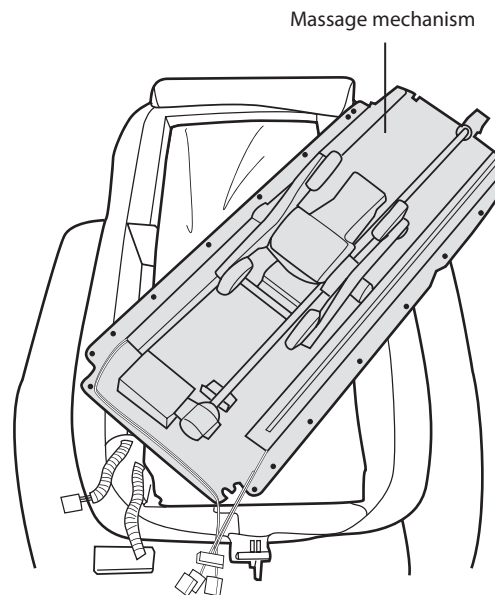

Fig.8
2. If you are replacing the massage mechanism, place the new massage mechanism on top of the backrest, face up, as shown (Fig.8).